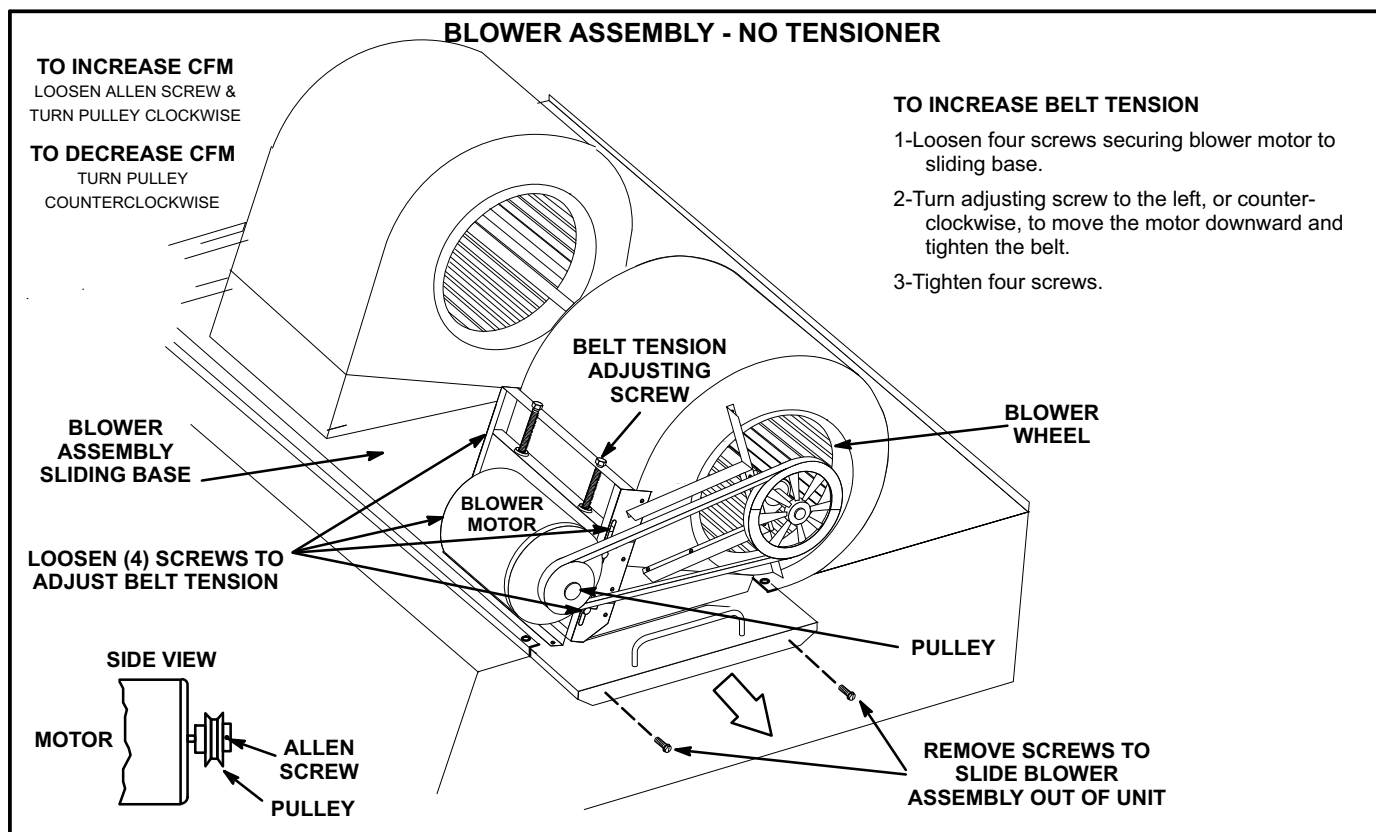

FIGURE 13
- 2- Remove screws on either side of blower assembly sliding base. See figure 13.
- 4- The blower RPM can be adjusted at the motor pulley. Loosen Allen screw and turn adjustable pulley clockwise to increase CFM. Turn counterclockwise to decrease CFM. See figure 13. Do not exceed minimum and maximum number of pulley turns as shown in table 2.
- 1- Loosen four screws securing blower motor to sliding base. See figure 13.